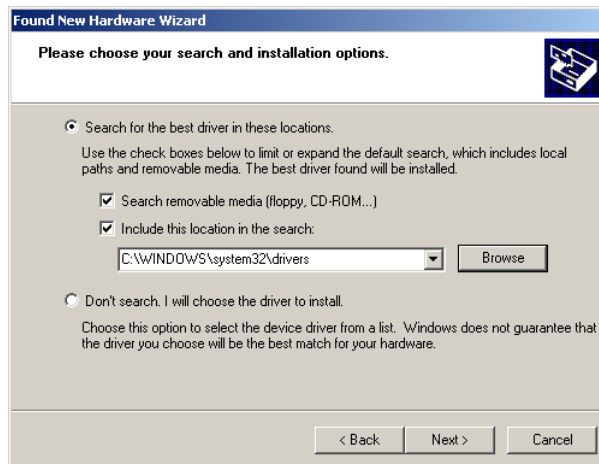

Figure 7-2 Select location of device driver
2. Select “Search for the best driver in these locations.” and browse to device driver location (Figure 7-2) then click next.